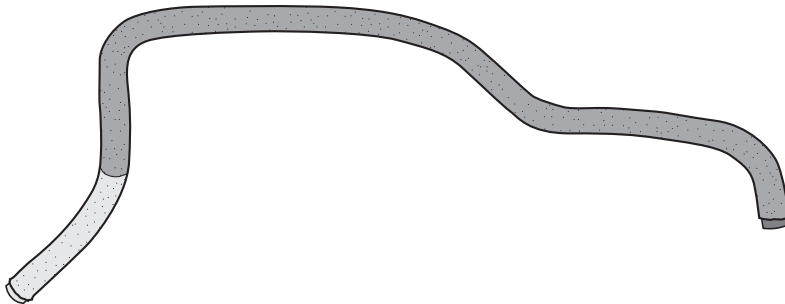

Figure 25: Remove highlighted portion
26. Modify brake booster as shown (fig 25) and install with fresh cut end to engine.